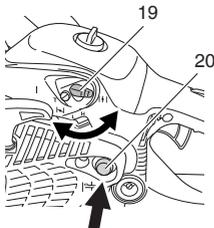

Fig. 16
3. Push priming pump (20) approximately ten times so that fuel flows into carburetor. (Fig. 16)
4. Turn the choke lever (19) to set it in the START position. (N) (Fig. 16) This will automatically lock to half-throttle.
6. When you hear first ignition, return the choke lever (19) to set it in the RUN position (H). (Fig. 16)